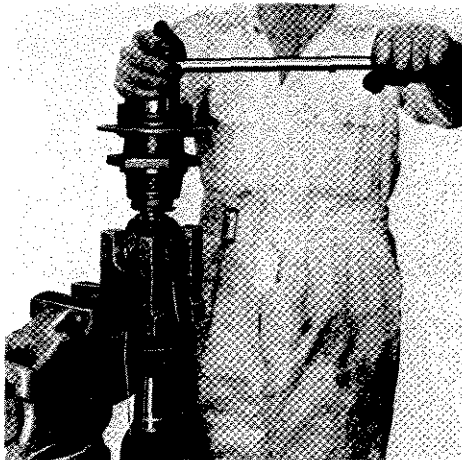
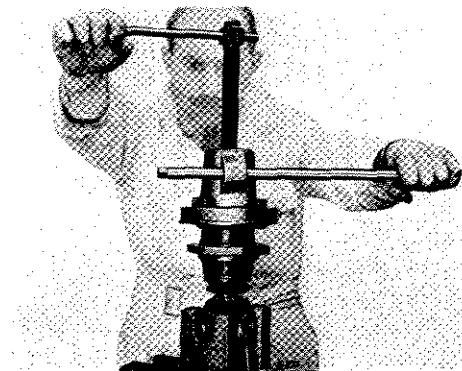

Fig. 42.
Fig. 43.
Mount the axle shaft in the holding fixture as shown on Fig. 42 and remove the nut (40), the washer (41) and extract the hub (43), see Fig. 43. The rear hub bearing housing assembly will be removed with the hub. Remove the key (55) and discard the collapsible spacer (47); remove the inner hub bearing cone (48), the bearing spacer (50) and the stone guard (51).